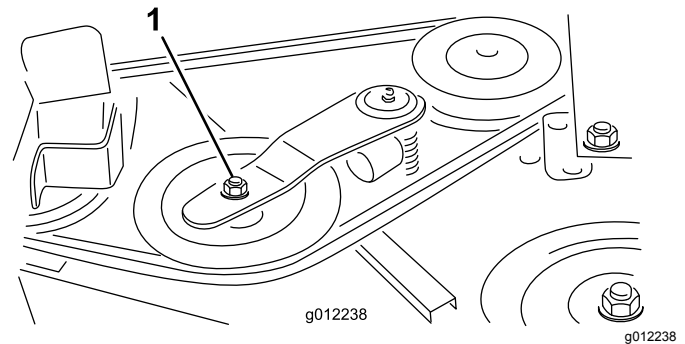
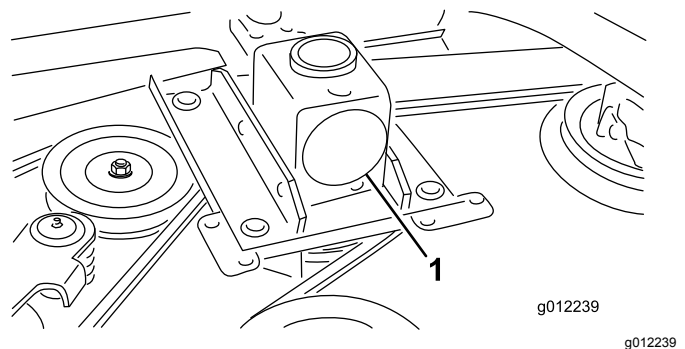

Figure 32
Figure 33
2. Using a torque wrench or similar tool, move the idler pulley (Figure 32) away from the drive belt to release the belt tension and allow the belt to be slipped off the gearbox pulley (Figure 33).